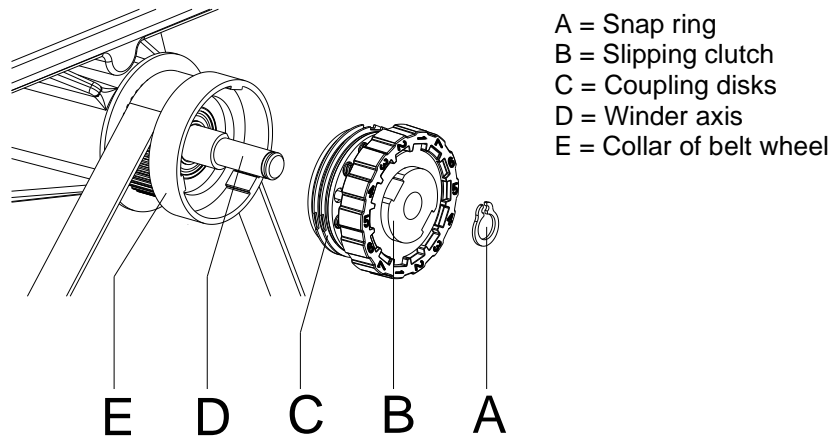

Figure 10
3. Remove the snap ring (A, Figure 10).
4. Pull the coupling or brake (B, Figure 10) from the winder axis (D, Figure 10).